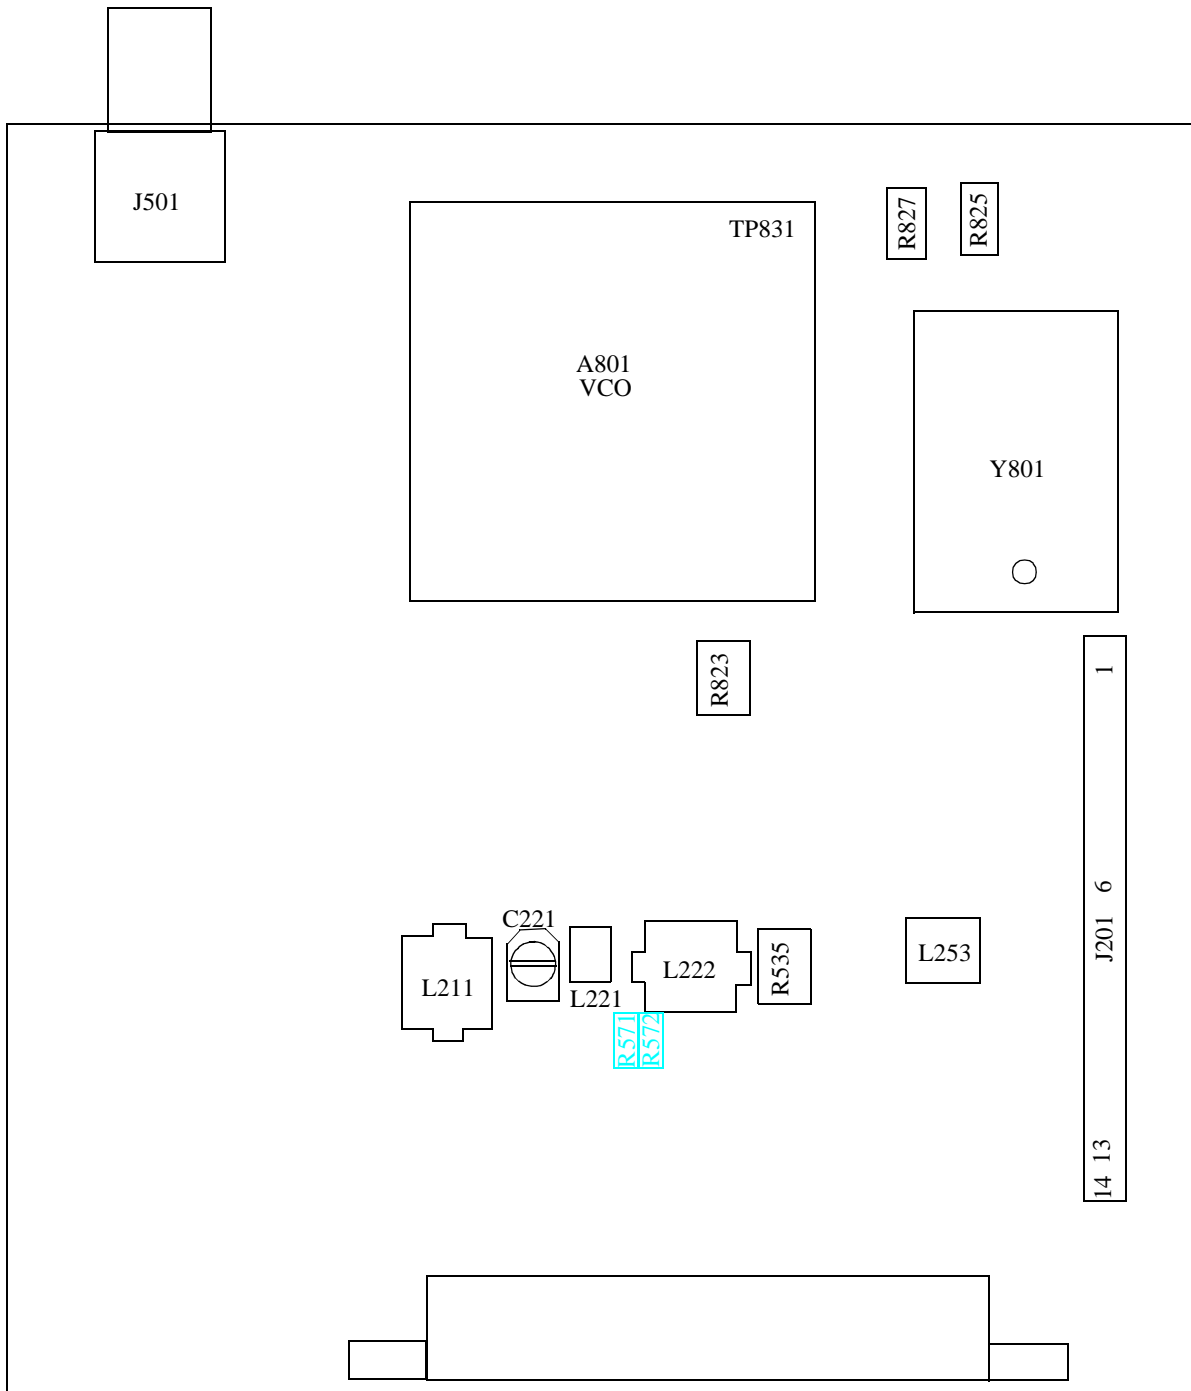

Figure 6-4 ALIGNMENT POINTS DIAGRAM
3. Connect a DC voltmeter at the junction of R833/C836 (VCO pin 16) to measure the VCO control line voltage for a meter reading of ≥ 0.50 and ≤ 4.90 V DC (see Figure 6-4).
5. Connect a DC voltmeter at the junction of R833/C836 (VCO pin 16) to measure the VCO control line voltage for a meter reading of ≥ 0.75 and ≤ 5.00 V DC (see Figure 6-4).
1. Connect a DC voltmeter to the junction of R822/R823 and adjust R823 for 2.10V DC ± 0.05 V DC (see Figure 6-4).
1. Check that R571 is installed and R572 is removed on Revision 2 or earlier boards (see Figure 6-4).